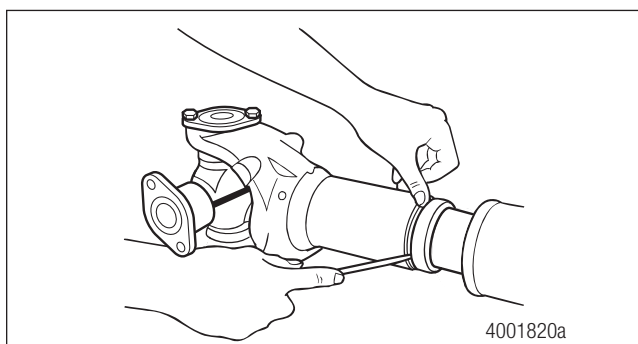

Figure 6.11
4. Install the seal onto the groove in the slip yoke. Figure 6.11.